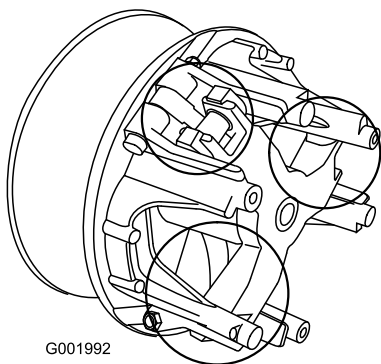

Figure 57
5. Lubricate the moving parts in the areas circled in Figure 57 using Toro Dry Lubricant Spray, available through your Authorized Toro Dealer or Distributor.